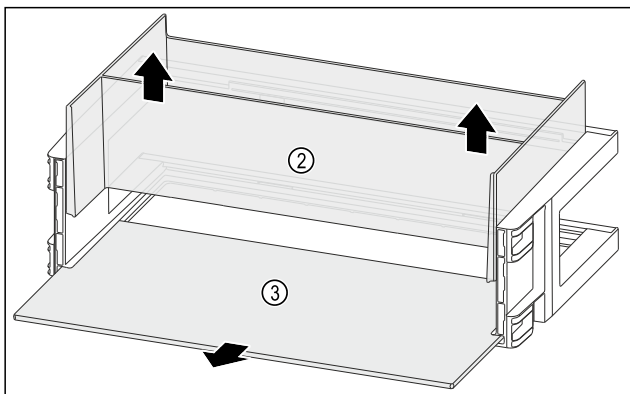

Fig. 143
- Remove the organizer Fig. 143 (2) upwards.
- Remove the shelf Fig. 143 (3).